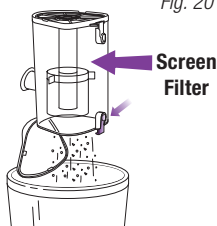

Fig. 21
- 3 If needed, turn the dust cup upside down over the trash receptacle and press the top door release button. (Fig. 21) Tap gently to remove contents.